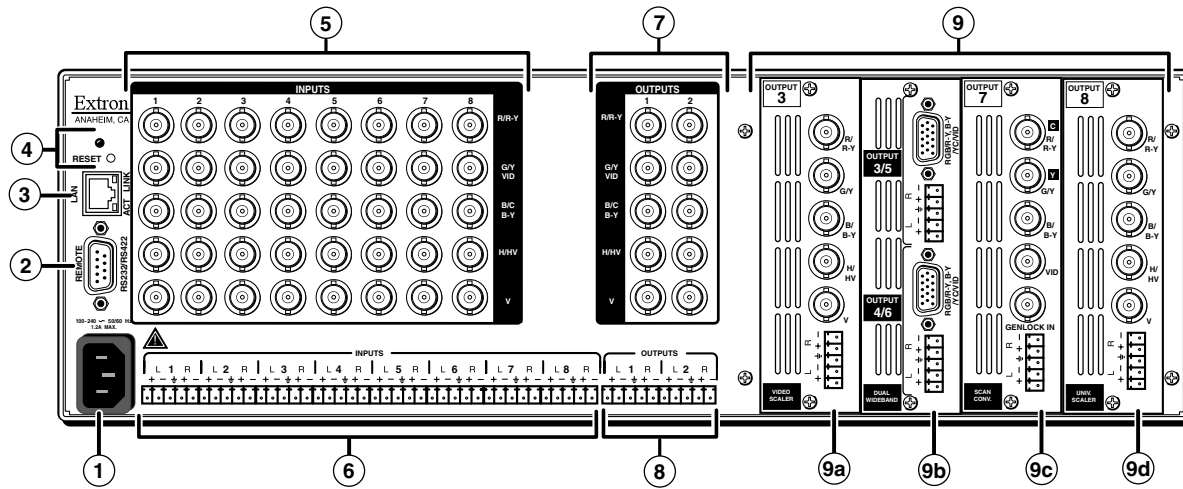

Figure 2-2 — ISM 824 rear panel features
- ⑨ There are different output card options available, for the four expansion slots at the rear of the ISM 824. Figure 2-2 shows the following four:
- ⑨a **ISM VS Video scaler card** — Connect RGB video displays to this set of 5 female BNC connectors to output scaled or unprocessed signals (RGBHV, RGBS, RGsB, or HD component (YUV) video).
- ⑨b **ISM 2WB Dual wideband card** — Connect RGB video, component/HDTV video, S-Video, or composite video displays, as applicable, or other devices to these 15-pin HD connectors for each output.
NOTE For the installation configuration shown in figure 2-2, the top 15-pin HD pin connector is output 5, and the lower 15-pin HD connector is output 6.